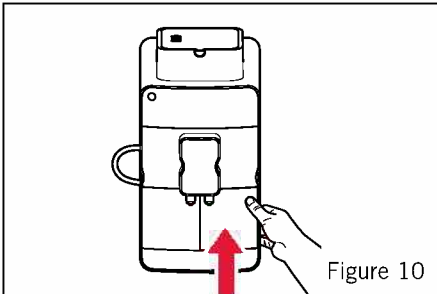

Figure 10
- Replace the water tank. Push it until it clicks in. See Figure 10.